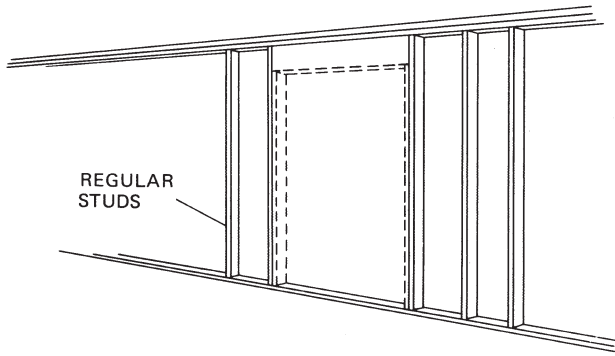

Fig. 9-32 How to locate a window rough opening. (Andersen.)
1. Lay out the window opening width between regular studs to equal the window rough opening width plus the thickness of two regular studs (Fig. 9-32). Normally, in new construction, the rough opening is already there, so all you have to do is install the window in it.